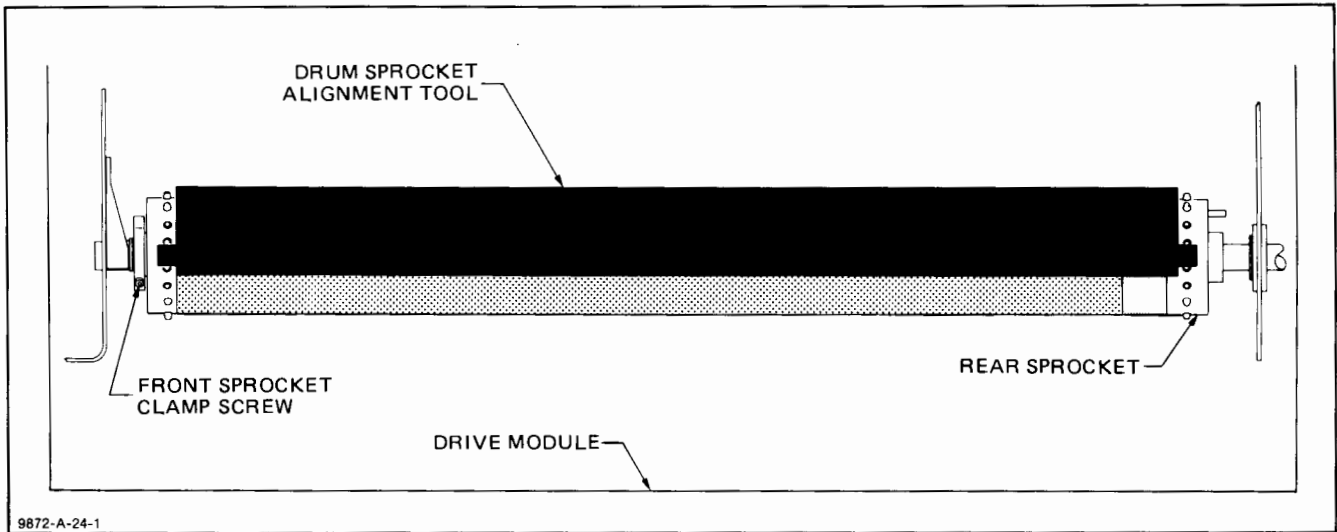

Figure A3-3. Sprocket Alignment
- a. Set the plotter LINE switch to the OFF (O) position, and remove the line cord.
- d. Place the drum sprocket alignment tool on the drum, concave side down. See Figure A3-3. The two triangular tabs should extend into the space between the teeth on both sprockets.